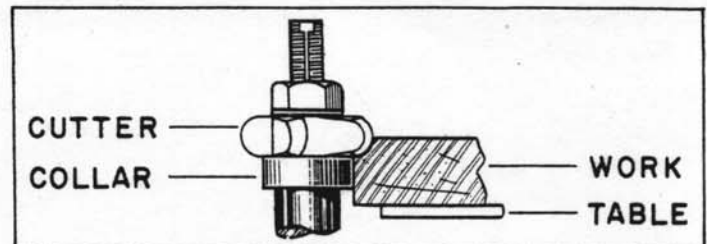

Fig. 16
2. When the collar is used below the cutter, as shown in Fig. 16, the progress of the cut can be observed at all times. However, any accidental lifting of the work will gouge the wood and ruin the workpiece.